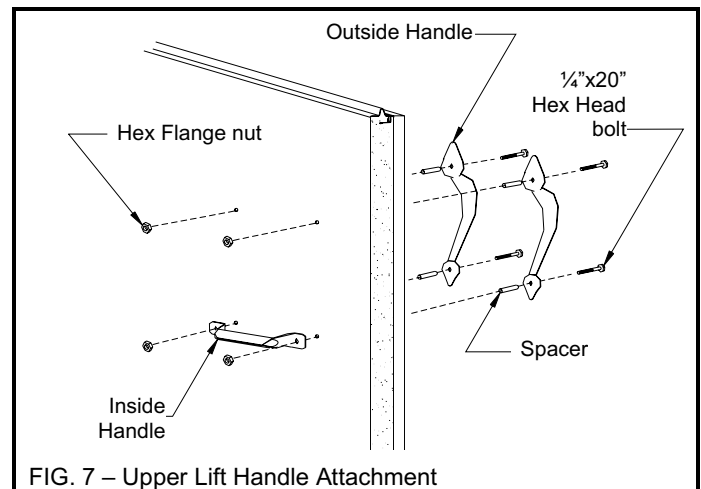

FIG. 7 – Upper Lift Handle Attachment
Step 10: Attach each vertical ornamental handle (outside) and one steel horizontal roll grip handle (inside) to the door using two 1/4" black painted hex head bolts, and two 1/4" hex nuts. Use a set of hex head bolts and hex nuts to fasten the vertical handles to the door through the remaining holes. The inside handle may be matched with either set of holes so long as it is no closer than 4" to the top or bottom of the section (See Fig. 7).